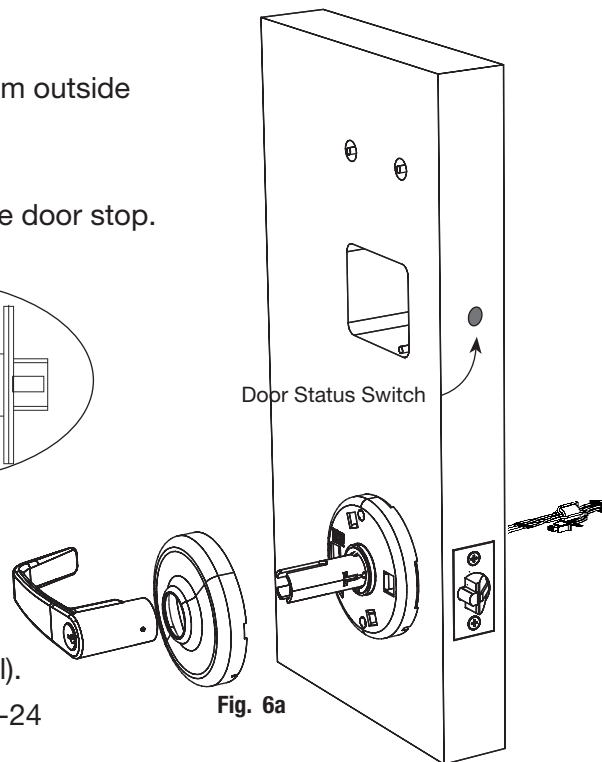

Fig. 6a
c. Install inside spring cassette, and tighten using two #12-24 screws provided (Fig. 6a).